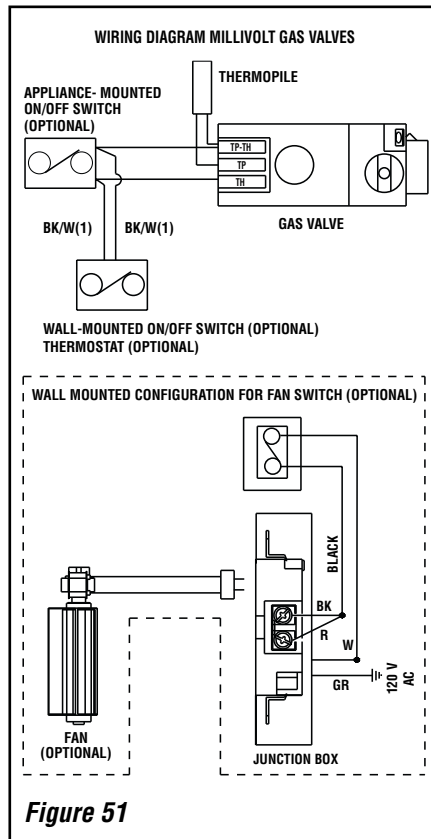

Figure 51
A. Millivolt Wiring (See Figure 51) –
Install Optional Control Switch (OFF/ON wall switch, wall thermostat or remote control receiver). Install snap bushing (provided in Electrical Outlet Kit) into control switch knockout in side panel (see **Figures 17 through 20 and 53**). Wire the optional control switch within the millivolt control circuit (as shown in **Figure 51**) using the 15 feet of 2 conductor wire supplied (route wires through the snap bushing to the optional control switch). Mount the optional control switch or wall thermostat in a convenient location on a wall near the fireplace.
4. Wire and install the outlet receptacle to junction box, then install into the chosen corner of the control compartment as shown in **Figures 51, 52 and 54**.